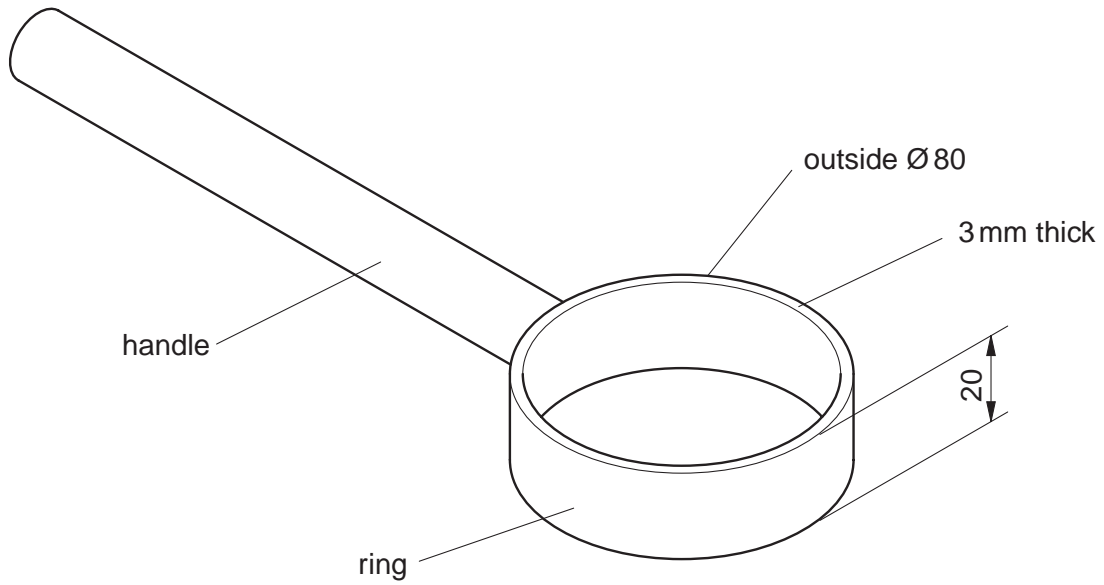

Fig. 8
- 5 Fig. 8 shows an incomplete design for a hand-held device used to unscrew different size lids from jars and bottles.